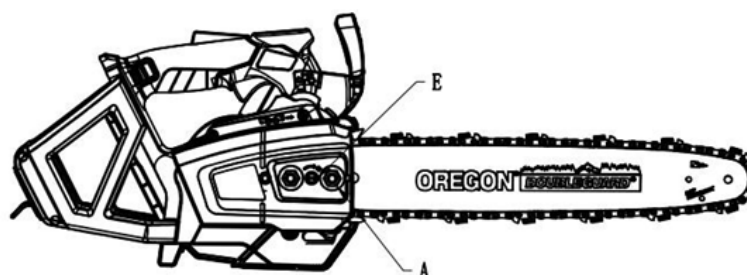

Fig 9
6. Hold the tip of the bar up and turn the adjuster (E) clockwise until the chain fits snugly against the bottom of the bar.
Then tighten the sprocket cover nut (A) to secure the sprocket cover (Fig. 9).